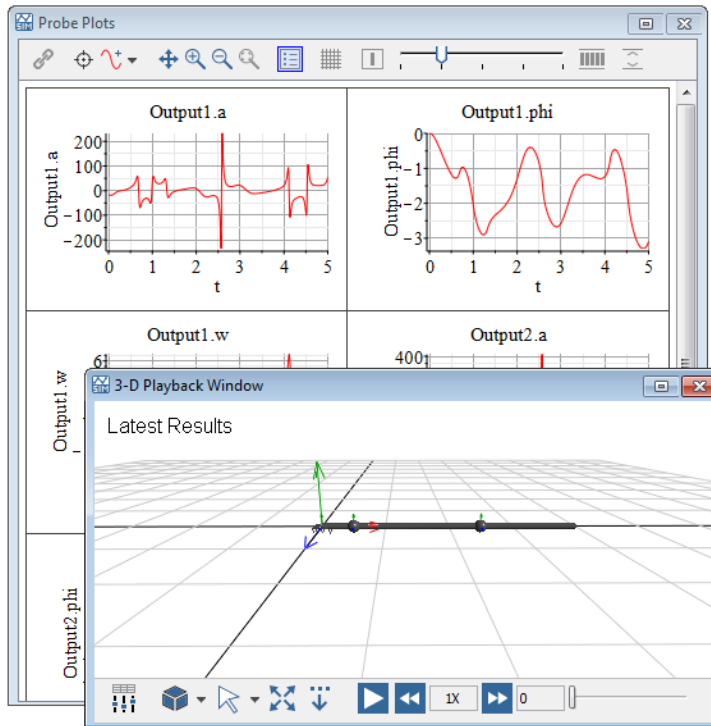

Figure 4.5: Simulation Graphs
3. Click **Show Simulation Results** () . The Analysis window opens with the Simulation Results tab selected. The 3-D Playback Window and the Probe Plots are in the Simulation Results tab. See **Figure 4.5**.